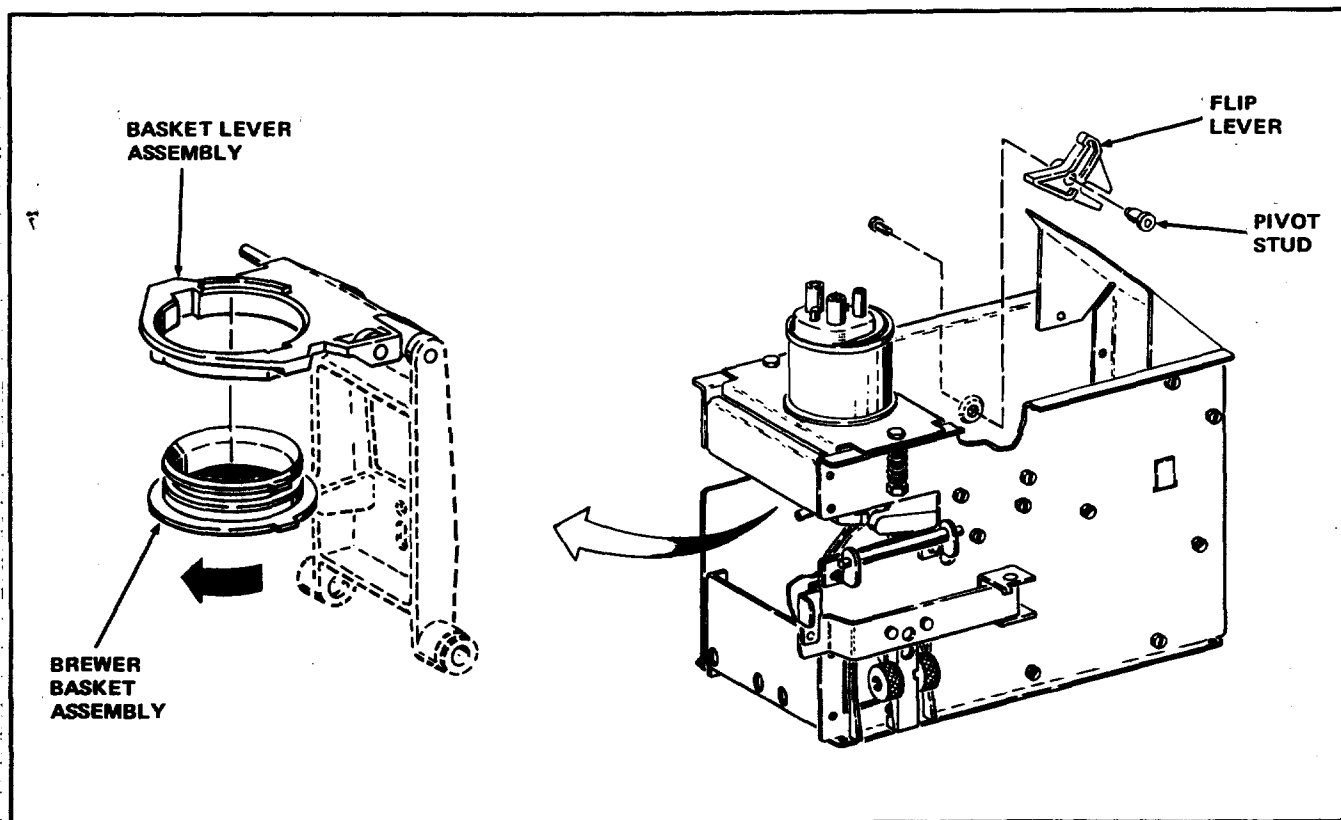

FIGURE 9
8. Rotate the Brewer Basket Assembly one-quarter turn clockwise to align the ears on the Brewer Basket Assembly with the slots in the Basket Lever Assembly. Lower the Brewer Basket Assembly out of the Basket Lever Assembly. See Figure 9.
Flip Lever from the Coffee Brewer Assembly. See Figure 9.